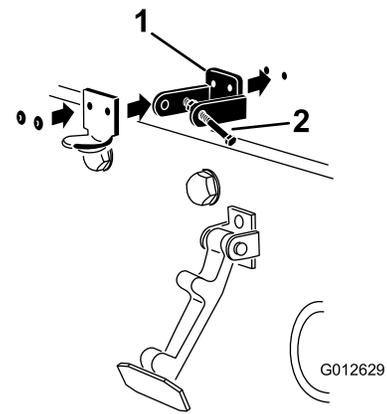

Figure 4
3. While aligning the mounting holes, position the CE-lock bracket and the hood-latch bracket onto the hood. The lock bracket must be against the hood (Figure 4). Do not remove the bolt and nut assembly from the lock-bracket arm.
5. Rivet the brackets and the washers to the hood (Figure 4).